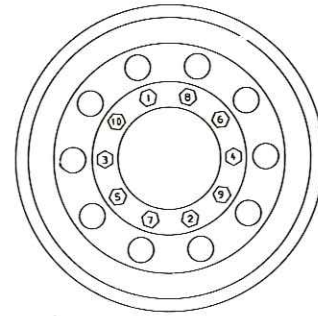

Figure 8-2. Lug Nut Tightening Pattern
12. Install spare and replace lug nuts. Tighten progressively in the sequence shown in figure 8-2 starting with # 1 and proceeding to # 10. Final torque will be 450 to 500 foot-pounds.
3. Remove outer lug nuts from the (5) studs which have lock rings and slide hub cover over remaining lug nuts.
4. Remove the (5) remaining lug nuts and wheel.
6. Install replacement wheel and inner lug nuts. Tighten progressively in the sequence shown in figure 8-2 starting with # 1 and proceeding to